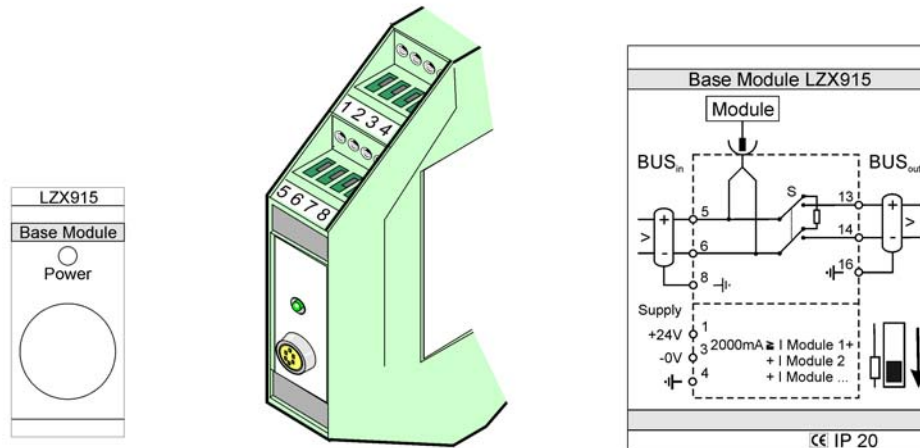

Figure 77 External base module
4. Make the connections as shown in Figure 77 and Table 50.